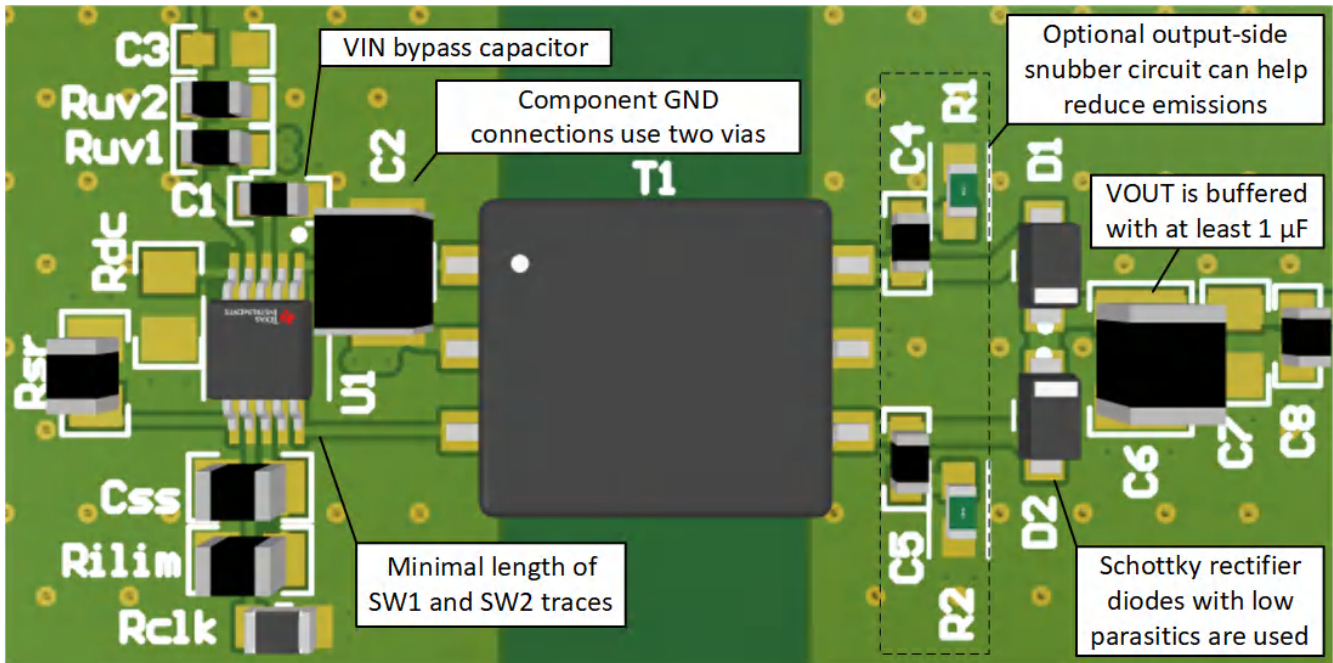

图 9-10. Layout Example of a 2-Layer Board
- The optimum placement is closest to the V_{IN} and GND pins at the board entrance to minimize the loop area formed by the bypass-capacitor connection, the V_{IN} terminal, and the GND pin. See Figure 9-10 for a PCB layout example.